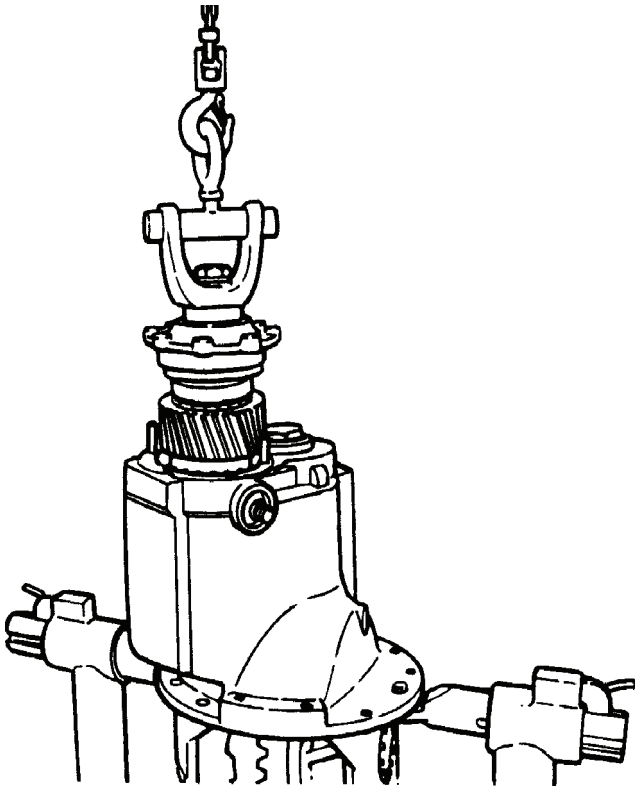

Figure 95.
- (d) Lower the input shaft assembly into the differential carrier. Figure 95.